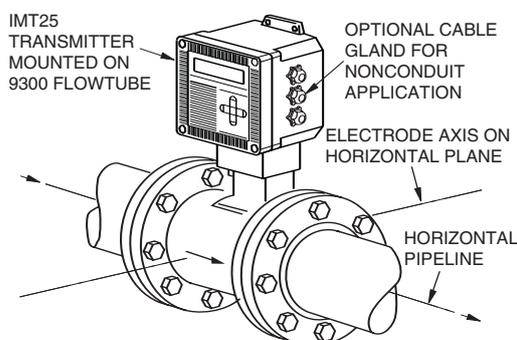

Figure 3. Flanged Body Flowmeter Mounted Horizontally, Electrode Axis in Horizontal Plane (Preferred)
- When installed in a horizontal pipe, the flowtube should be oriented so that the electrodes are not located near the top or bottom of the pipe (see Figure 3). Adjacent piping may be elevated so as to maintain a full flowtube.